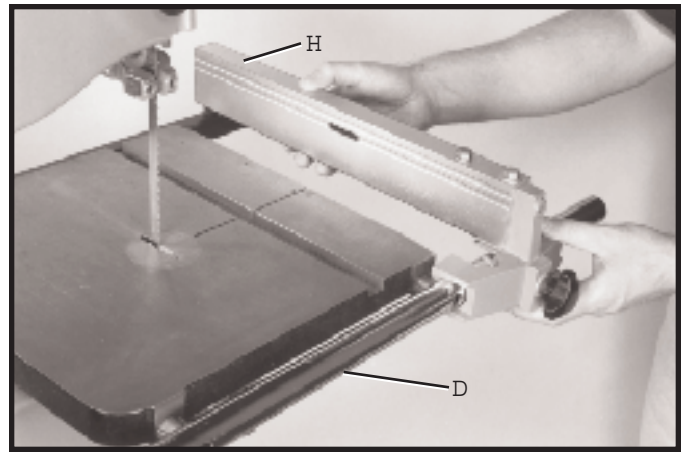

Fig. 25
5 Insert fence assembly (H) Fig. 25, onto front guide rail (D). NOTE: Fence assembly (H) will clamp to the front guide rail only, and simply rest on the rear guide rail.